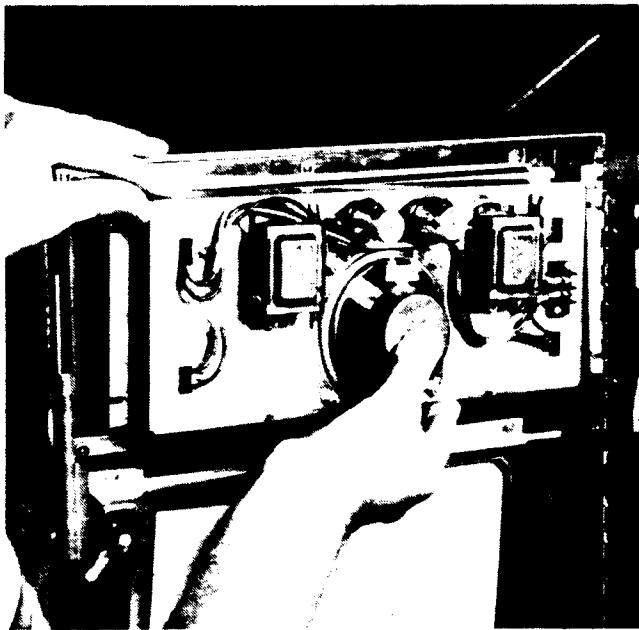

Figure 4-16
- 1) Remove the two Phillips screws on the left side of the upper lighting assembly panel. See Figure 4-16.